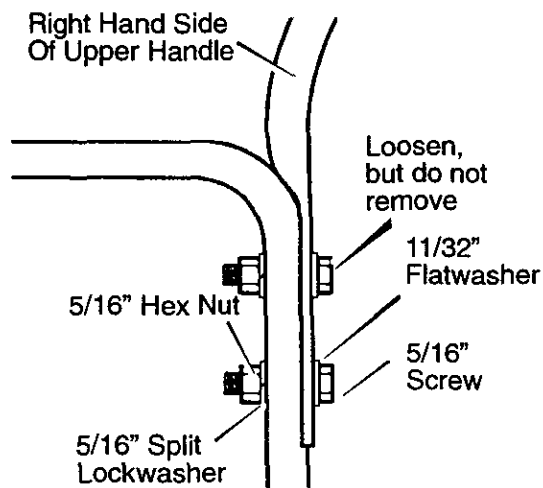

Figure 3
2. Loosen, but do not remove, the screws, flatwashers, lockwashers, and hex nuts in the upper holes of the lower handle. See Figure 3.